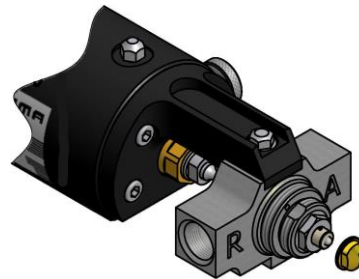

Figure. 11
10. Remove the PCD and clean it with gun-cleaning solvent (see **Figure. 11**).